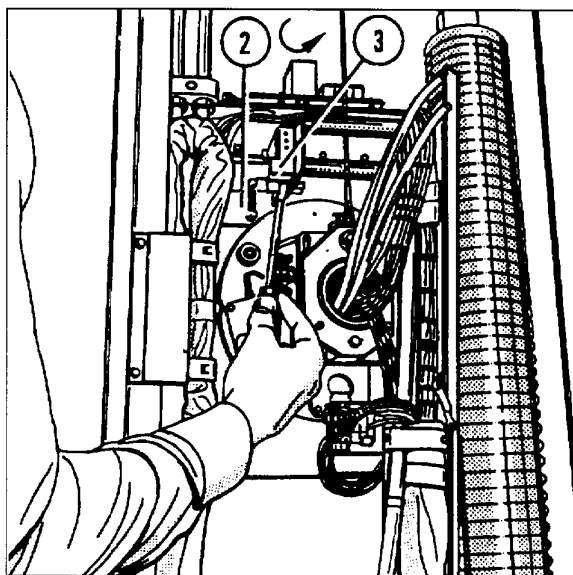

Fig. 1
- To lock in the safety catch (2/Fig. 1), press the locking lever (3/Fig. 1) in the direction of the arrow with the screwdriver (Fig. 1).